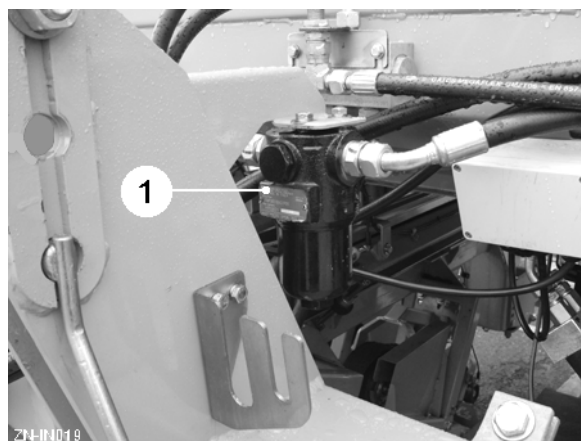

Fig 28
The pressure filter element (item 1, fig 28) should be replaced after the first 50 hours running time and then every 500 hours or annually thereafter.